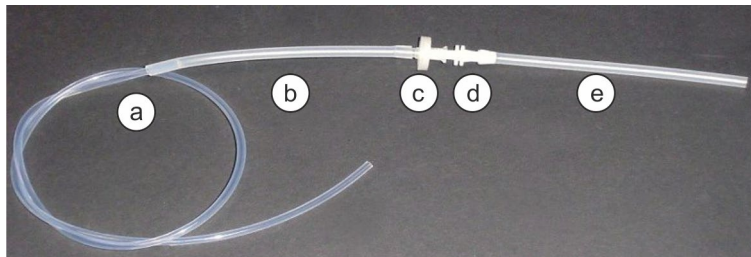

Fig. 19 Flow monitoring set
Smaller leaks can be detected if the control flow in the system drops when applying additional counter pressure. The flow monitoring set which is provided with the compEAct S can be helpful for finding leaks. The set is assembled as follows (→Fig. 19):
3. Attach the loose end of hose a (→Fig. 19) to the FAST connector.